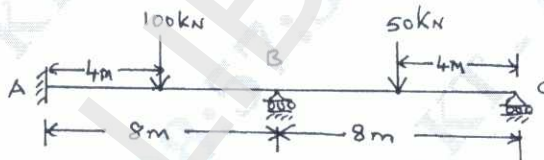

Fig. Q6
- 6 Using Flexibility matrix method (system approach) analyze the continuous beam as shown in Fig. Q6. Draw BMD and SFD, EI constant. (20 Marks)